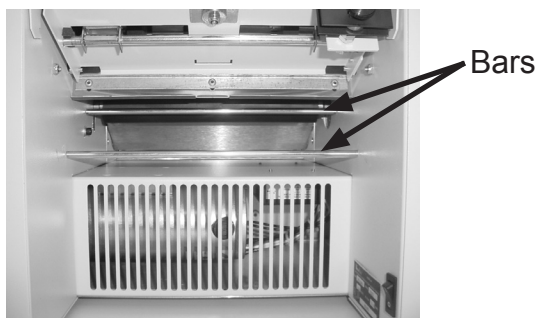

Figure 6a
5. To reinstall the lower fold plate, slide the plate (with the thumbscrews facing up and throat toward inside of machine, figure 6b) until it rests on the two silver bars (figure 6a) and locks into place (figure 6c).